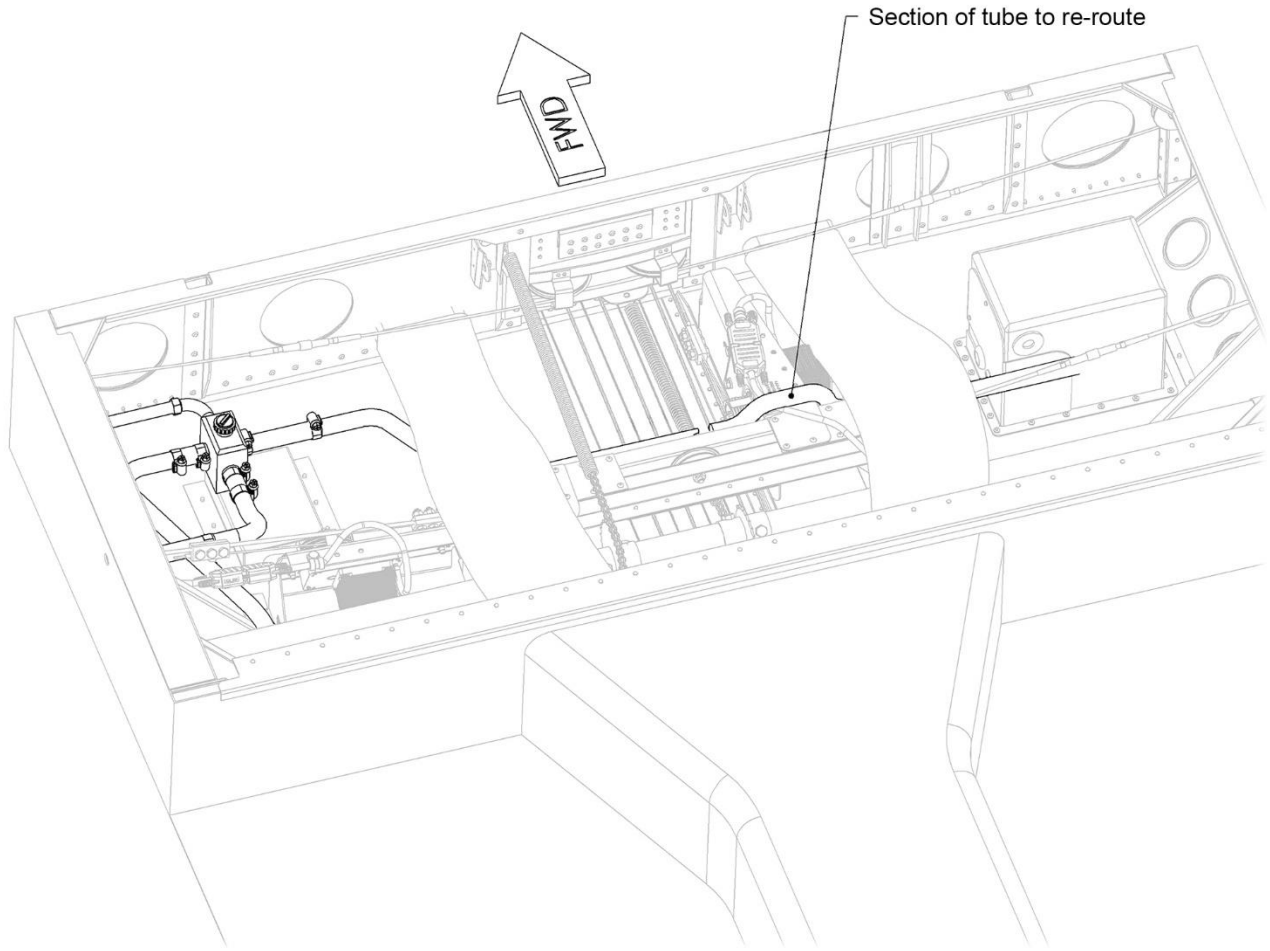
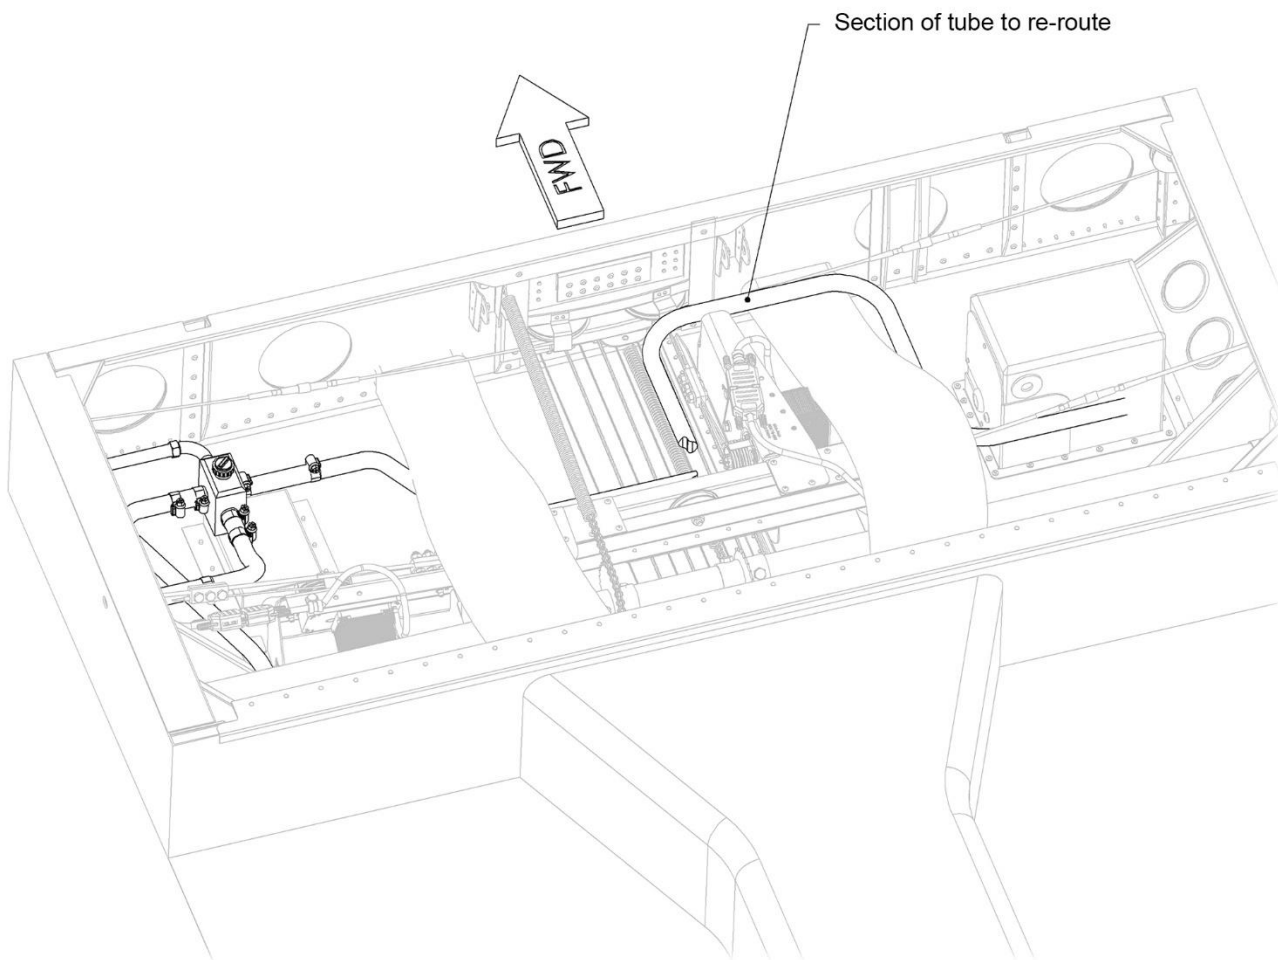

Figure 25: Pneumatic Tube Reroute — Example #1
Figure 26: Pneumatic Tube Reroute — Example #2
3. Identify section of pneumatic tube that requires rerouting (see Figure 25 and Figure 26).
5. Re-route section of tube as needed using standards and practices outlined in *AC 43.13-1B, Chapter 9, Section 2*. (See Figure 25 and Figure 26 for examples).